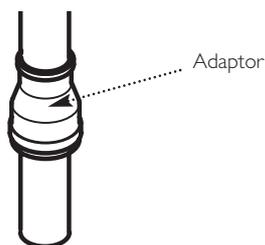
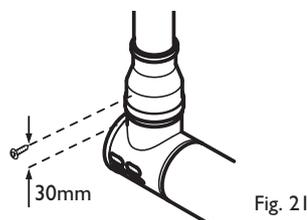

Fig. 22
Fig. 21
9. The 60\O exhaust can now be fitted. Slide the adaptor over the plain end of the 60\O exhaust (Fig. 22) and engage the exhaust in the terminal. Slide the adaptor down over the spigot. Mark and drill the adaptor, using a 2mm bit, as shown in Fig. 21. Secure the adaptor to the spigot using one of the screws supplied.